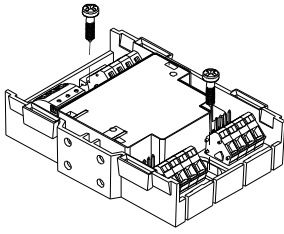

Fig. 9
- Installation directly in a switching cabinet or a control unit: mount the module on an even surface (Fig. 9).
2. Place the module in the housing and fix it with two screws (Fig. 9/10).
2. Fix the module with two screws (M4 X15) (Fig. 9). Distance between holes: $63.5 \pm 1.0\text{mm}$